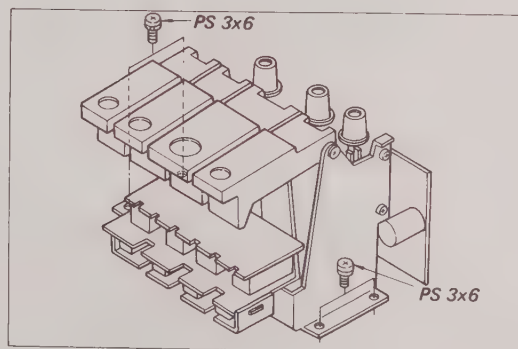
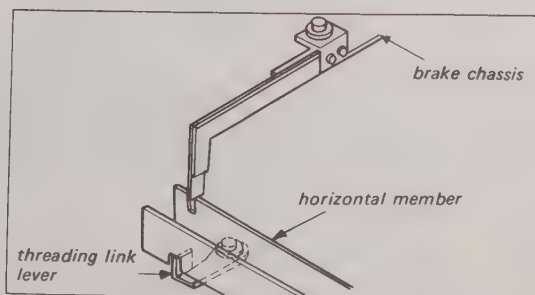

Fig. 5-25. Function button assembly removal
Fig. 5-26. Detail of linkage
2. Remove the four PS 3x6 screws to remove the function button assembly together with record button assembly. See Fig. 5-25. Care should be taken when removing the function assembly, as the front horizontal members of the function button assembly are engaged with threading link lever and leaf spring tang of brake chassis as shown in Fig. 5-26.
Note: Make sure that threading link lever and leaf spring tang of brake chassis are in the notch on the front horizontal member of the function button assembly as shown in Fig. 5-26.
1. Remove the function button assembly together with record function button assembly as described in function button assembly replacement. See Fig. 5-25.